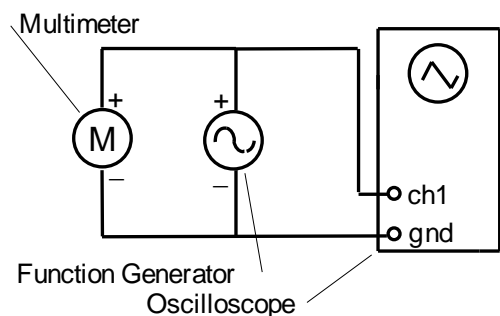

Figure 2
An oscilloscope is most useful when measuring time varying signals. Replace the power supply in the circuit with a sine function generator as seen in Figure 2. The multimeter reading can now be compared to the oscilloscope display. The trace on the crt display is, of course, a sine wave whose equation is given by
2. Set up the circuit shown in Figure 2. Connect the multimeter as a voltmeter. Select the sine function on the generator and a frequency of about 1 kHz. To obtain a stationary trace on the scope you will have to adjust both your time base and the frequency. A single period should almost fill the whole screen. Make sure the time base and the vertical gain are both in their calibrated positions or else the numbers you obtain will be incorrect. Make a sketch of what is observed on the oscilloscope screen.